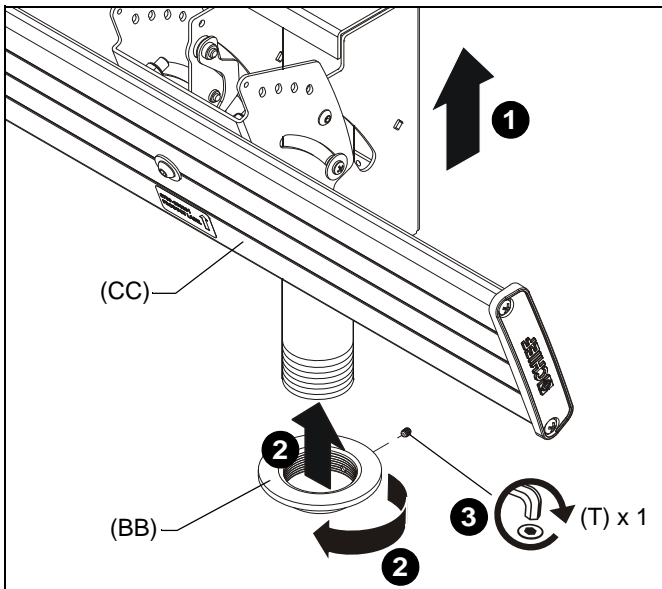

Figure 1
1. Slide ceiling mount (CC) up from below onto installed column (not included). (See Figure 1)
2. Thread bottom coupling (BB) onto installed column until tight, with a minimum of four threads engaged.
3. Install and tighten one 10-24 x 1/4" set screw (T) into bottom coupling (BB). (See Figure 1)